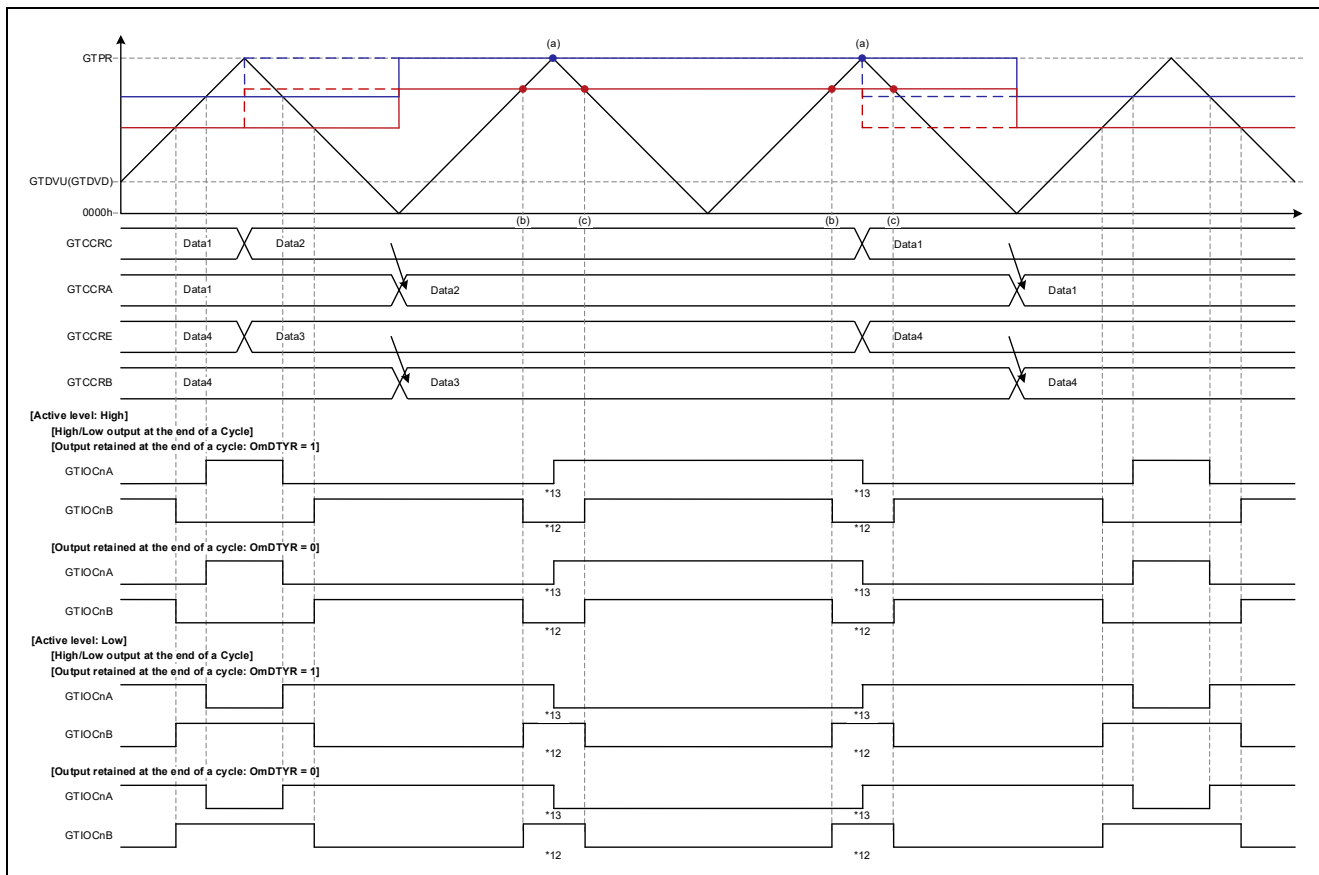
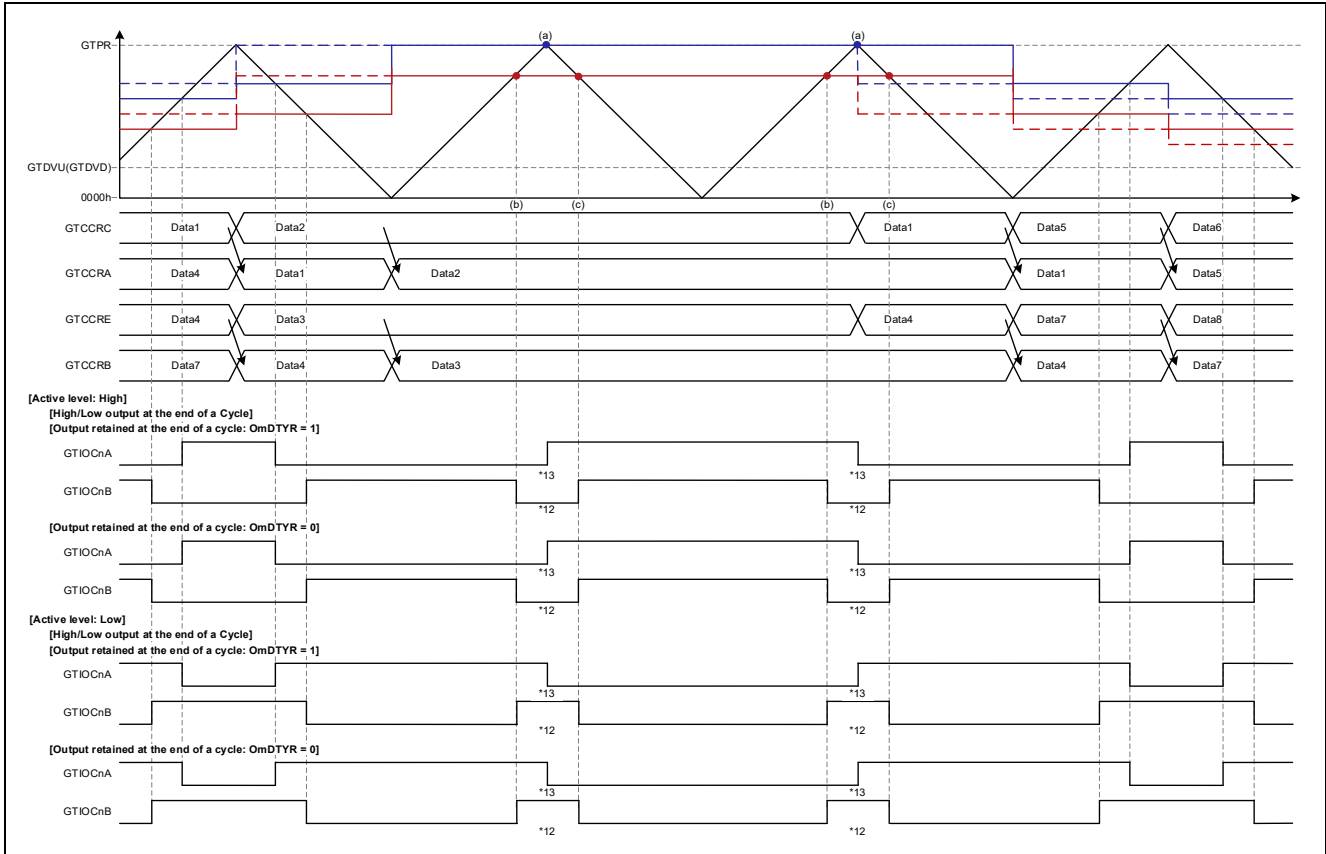
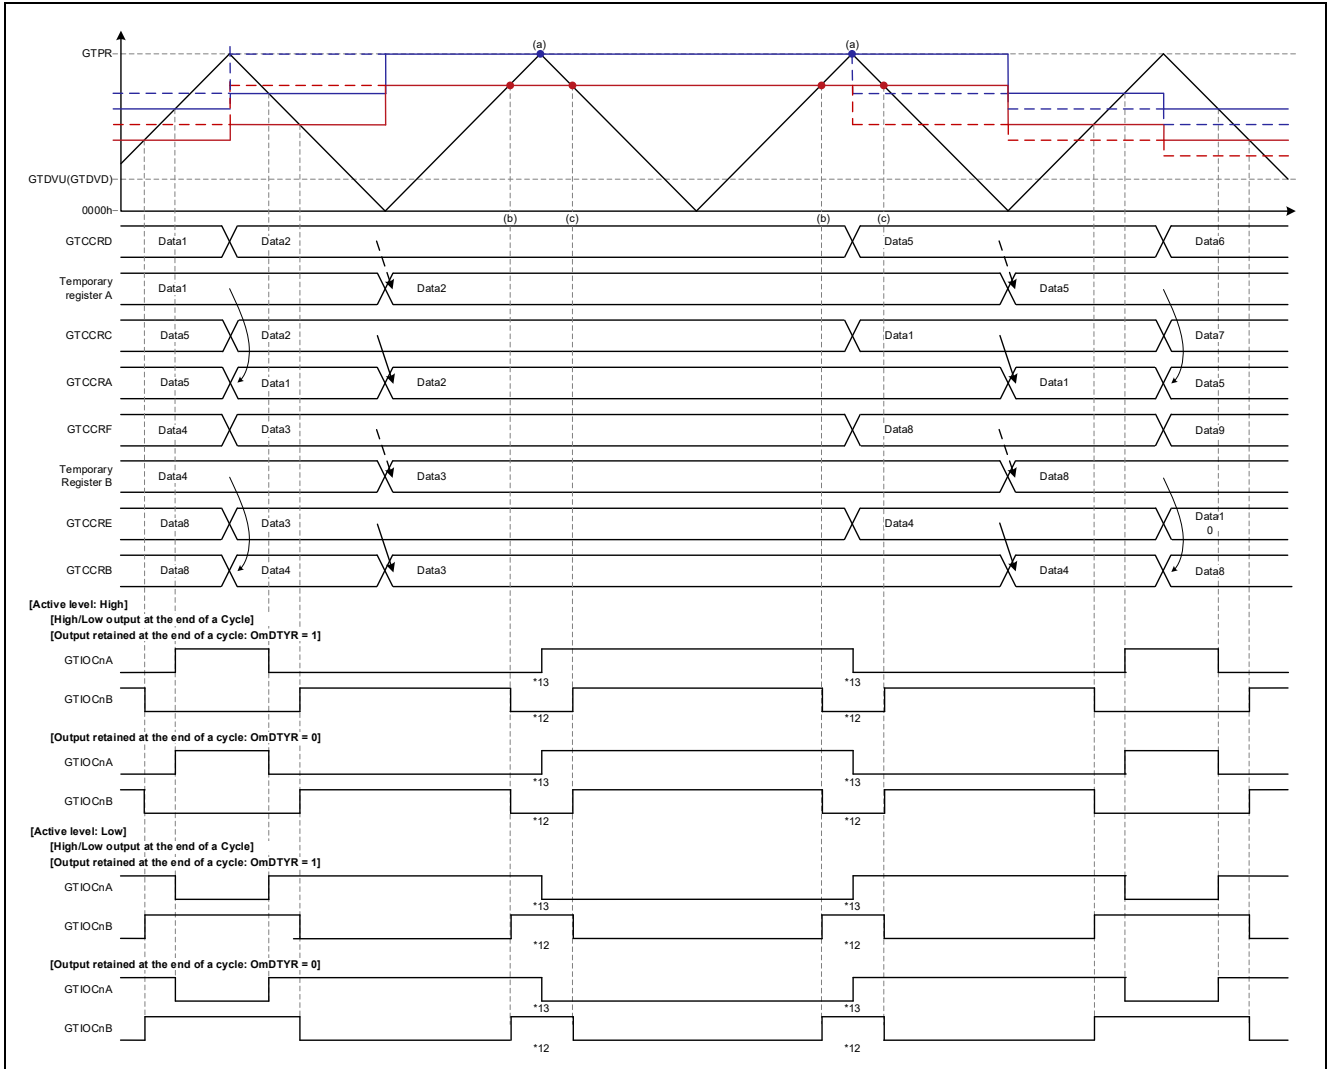

Figure 1.112 Triangle-Wave PWM Mode 1 Operation Example
Figure 1.113 Triangle-Wave PWM Mode 2 Operation Example
Figure 1.114 Triangle-Wave PWM Mode 3 Operation Example
Operation examples when an abnormal value (same as GTPR register setting value) setting is used as listed in Table 1.14, Figures Showing Output Waveforms, are shown in Figure 1.112 to Figure 1.114 and applicable cautions are described below.
- Operation Example 1: Figure 1.112 Triangle-Wave PWM Mode 1, Abnormal Value (Transfer at Trough)/Normal Value (Transfer at Trough), cautions 12 and 13
- Operation Example 2: Figure 1.113 Triangle-Wave PWM Mode 2, Abnormal Value (Transfer at Trough)/Normal Value (Transfer at Trough), cautions 12 and 13
- Operation Example 3: Figure 1.114 Triangle-Wave PWM Mode 3, Abnormal Value (Transfer at Trough)/Normal Value (Transfer at Trough), cautions 12 and 13
Figure 1.112 shows an operation example of transfer of a value equal to GTPR to GTCCRA via buffer transfer at trough in triangle-wave PWM mode 1.
Figure 1.113 shows an operation example of transfer of a value equal to GTPR to GTCCRA via buffer transfer at trough in triangle-wave PWM mode 2. Except for the difference in the buffer overwrite timing and transfer timing, the operation is the same as that shown in Figure 1.112.
Figure 1.114 shows an operation example of transfer of a value equal to GTPR to GTCCRA via buffer transfer at trough in triangle-wave PWM mode 3. Except for the difference in the buffer overwrite timing and transfer timing, the operation is the same as that shown in Figure 1.112.